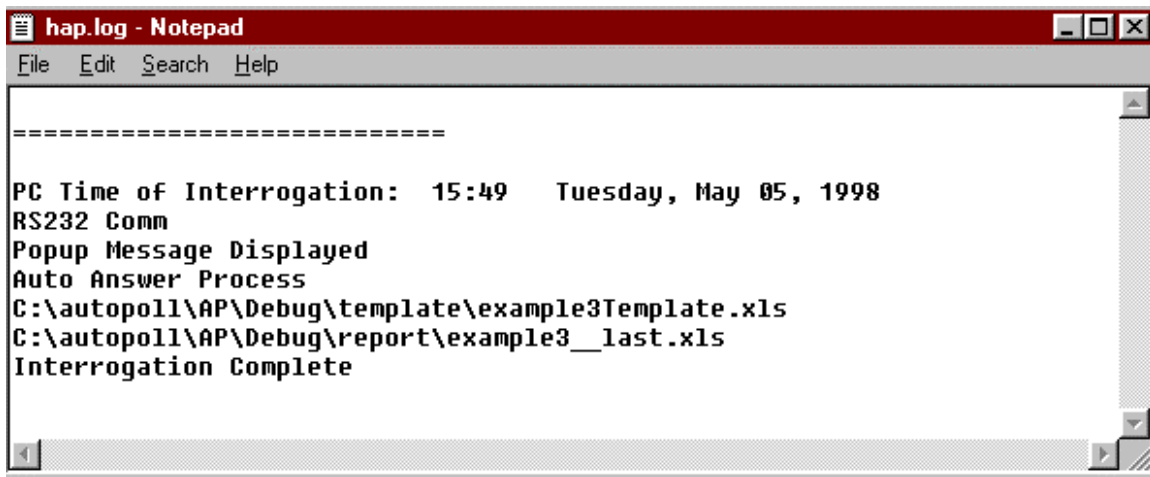

Figure 5.3.3c Log File, example 5.3
4) Check the log file by selecting “Log” from the main dialog. Figure 5.3.3c below illustrates the log file:
Figure 5.3.3c illustrates the file “example3__last.xls” was written. This file is the HAP generated report. HAP generated this file by using the template file “example3Template.xls”. During Logger interrogation, HAP scans the template file for Logger commands. HAP interrogates the Logger and then deposits the result in the report file “example3__last.xls”. Figure 5.3.4 below illustrates “example3__last.xls”: